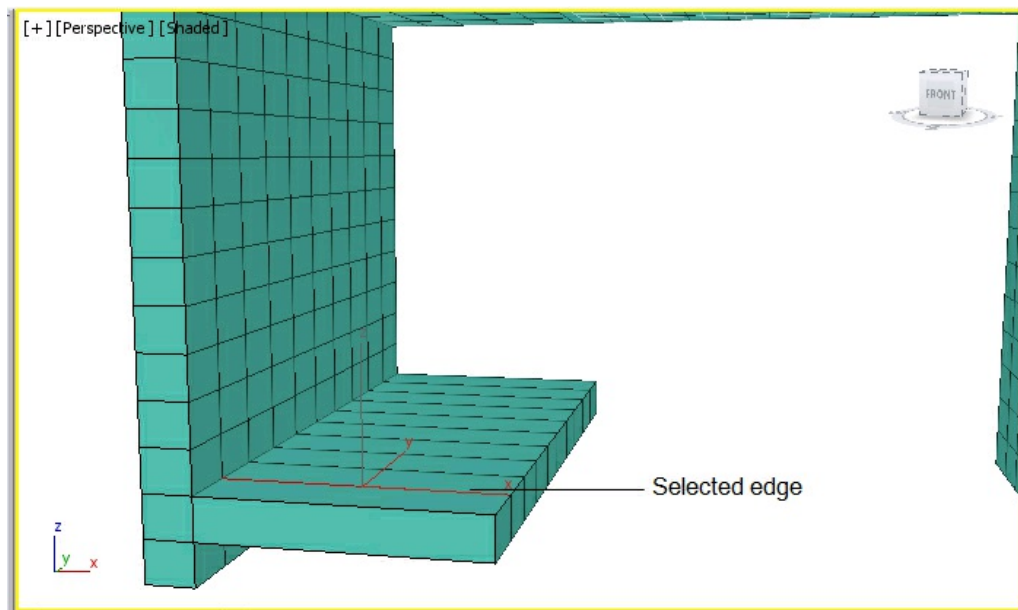

Figure 9-69 The selected edge of computer table
7. Select the **Edge** sub-object level and then select an edge from the extruded part, as shown in Figure 9-69.